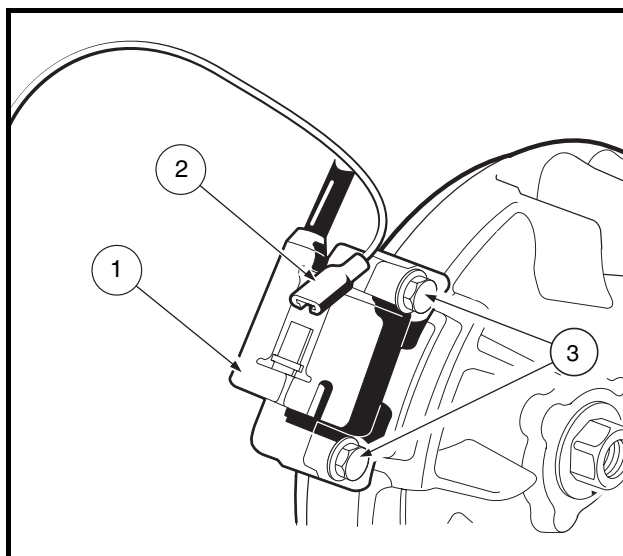

Figure 13-8 Ignition Coil
2. Disconnect the ignition coil (1) from its primary lead wire at the connector (2). Remove the two bolts (3) and take out the ignition coil (**Figure 13-8, Page 13-7**).